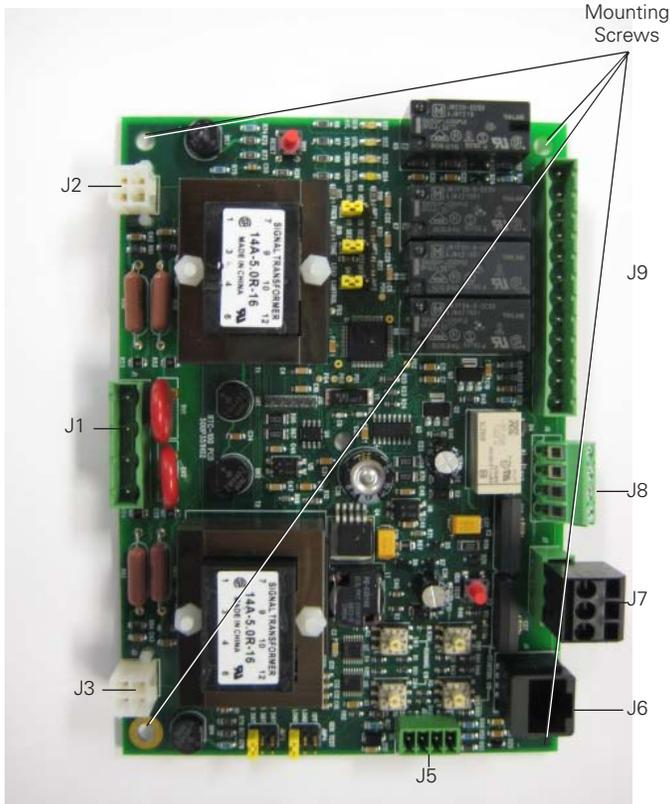

Figure 21. Removing the Controller Board.
- Step 2: Disconnect the J1, J2, J3, J5, J6, J7 and J9 plugs from the controller (see Figure 21).
- Step 4: Remove the four (4) screws located at the corners of the controller that secure it to the power panel. Remove the controller (see Figure 21).
Step 3: Disconnect all plugged connections from the controller (see Figure 21).